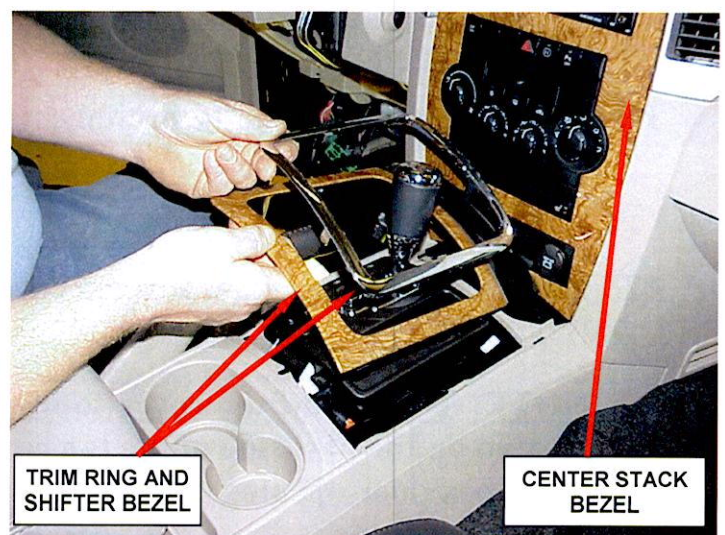

Figure 2 – Trim Ring & Shifter Bezel
14. Remove the shifter console chrome trim ring and shifter bezel (Figure 2).
15. Remove the instrument panel center stack bezel (Figure 2).
53. Install the instrument panel center stack bezel (Figure 2).
54. Install the shifter console wood grain shifter bezel and chrome trim ring (Figure 2).